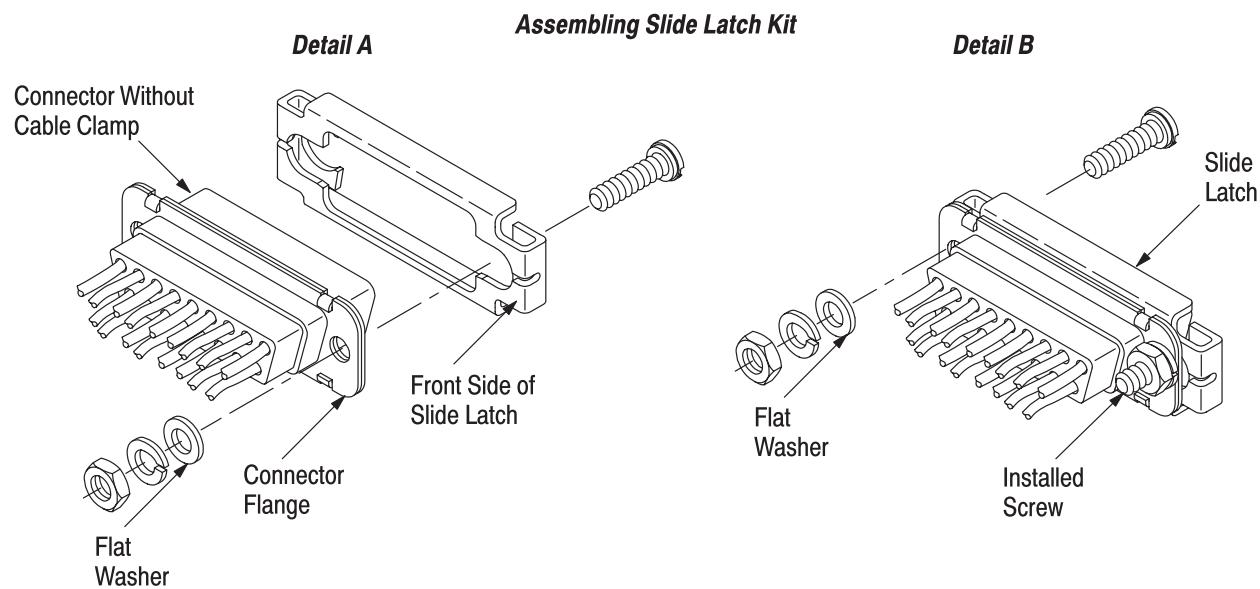

Figure 3
1. Secure one screw onto the connector flange with the flat washer (if supplied), lockwasher and hex nut. Tighten the screw to a torque between 0.11 and 0.22 N·m [1 and 2 in.-lb]. See Figure 3, Detail A.
2. Slide the front side of the slide latch over the installed screw to hold the slide latch in position. See Figure 3, Detail B.